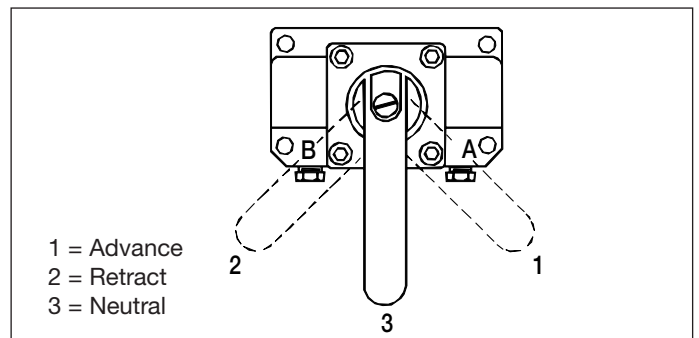

Figure 31: Valve Handle Positions
4. Rotate the control valve handle to the neutral ("3") position. See Figure 31 for VM33 and VM43 valve positions.